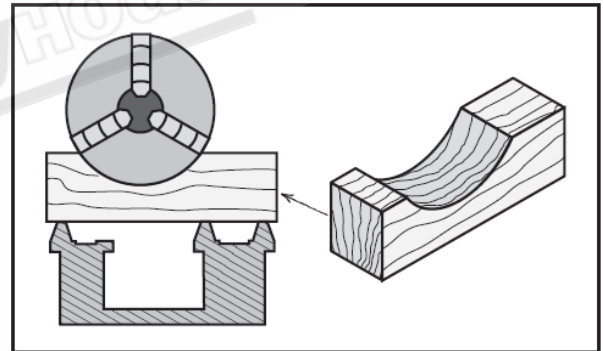

Figure 10
2. Lay a chuck cradle (see Figure 10) or a layer of plywood over the bed ways to protect the precision ground surfaces from damage and to prevent fingers from being pinched.